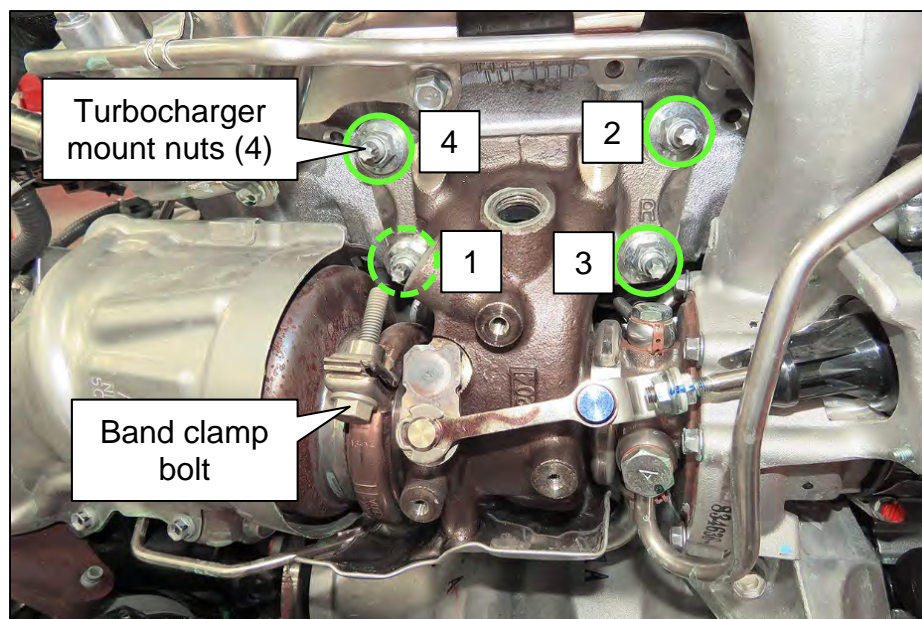

Figure 51
75. Loosen the turbocharger assembly mounting nuts in order, from 1 to 4, as shown in Figure 51.